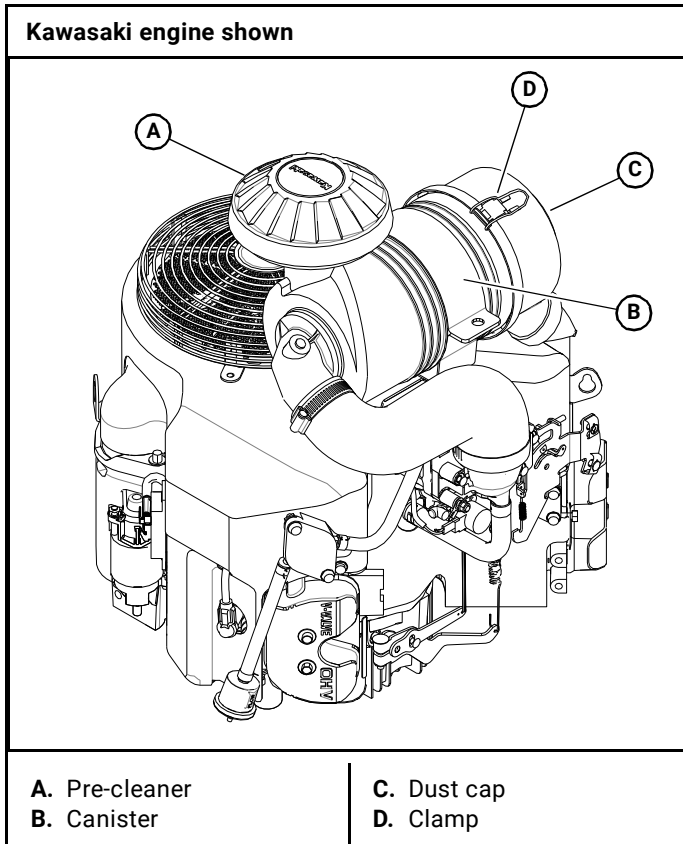

Figure 4-16
A specially designed dry filter is standard equipment on these mowers and supplies clean combustion air to the engine. Figure 4-16
3. Reinstall the dust cap. Make sure it seals all the way around the air cleaner canister, then tighten the clamps. Figure 4-16